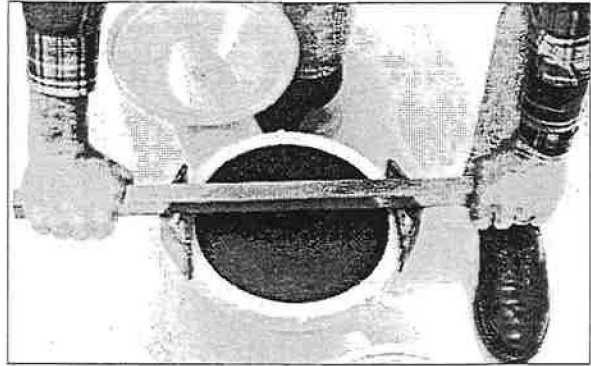

Figure 34
5. Using the retaining ring spanner wrench, turn the retaining ring an additional 1/4 turn. See Figure 34.